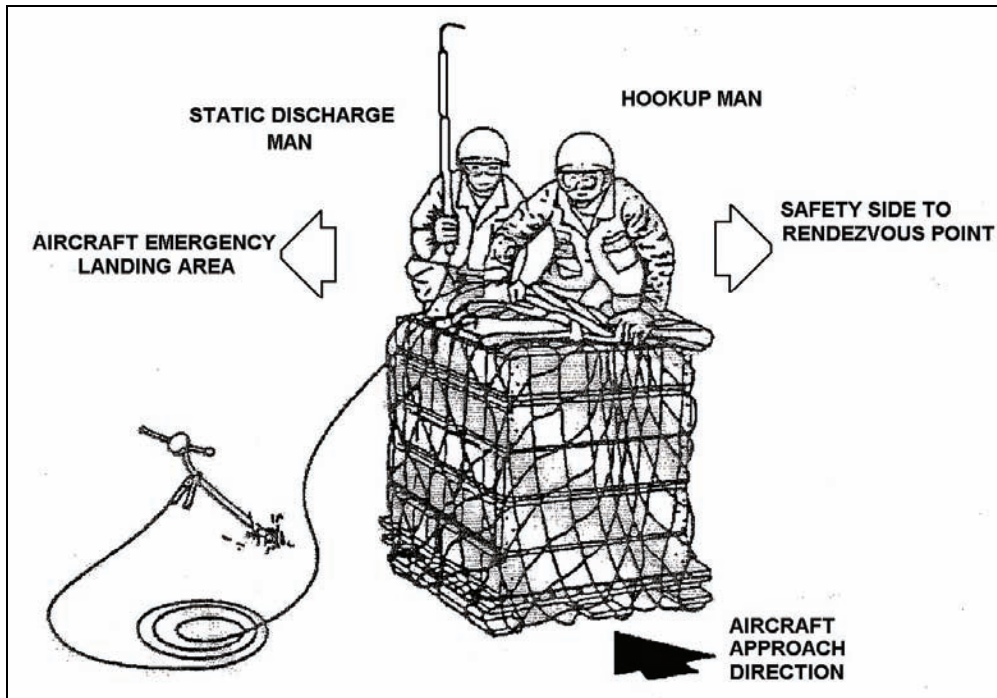

Figure 3-2. Hookup Person On or Near the Load in a Stable Position
- a. Ensure hookup person is on or near the load in a stable position (see Figure 3-2).